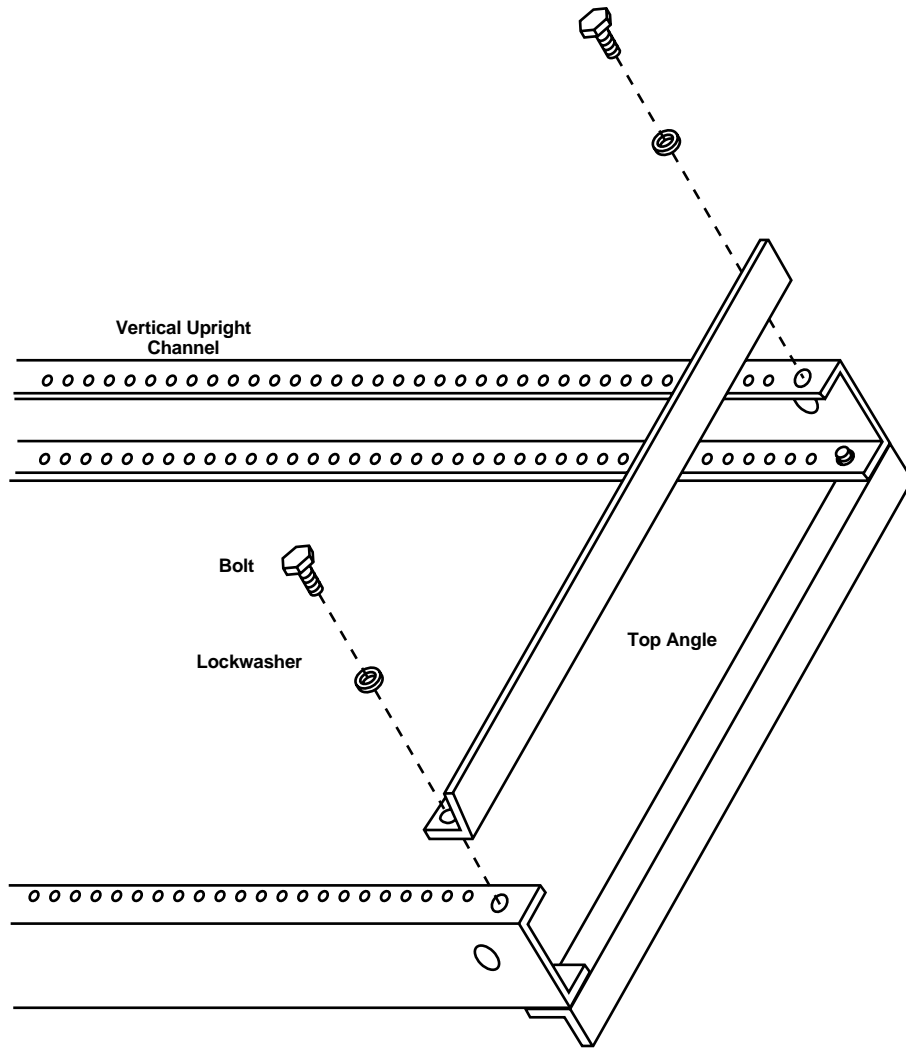

Figure 1-1. Step 1: Attaching the Top Angle to the Vertical Channel Uprights.
STEP 1: Attach the top angle to the vertical upright channels. (See **Figure 1-1**.)